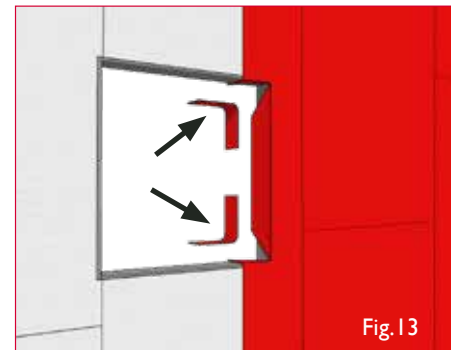

Fig.13
4. Use a length of Wraptite Tape long and wide enough to seal the corner opening and the folded edges of the Membrane (Figs. 13 & 14). The folded Membrane edges (C) must be completely sealed by the Tape. Wraptite Tape and Membrane edges along the interior side of the wall (D) remain uncovered. Use a roller to ensure Membrane and Tape are well-adhered.